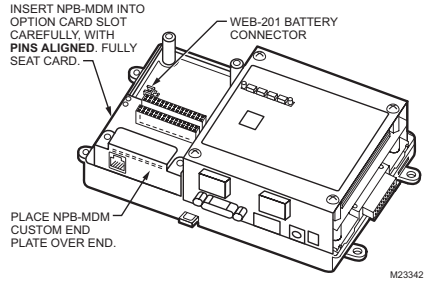

Fig. 3. Top view, NPB-MDM end plate insertion.
6. Place the custom end plate that came with the NPB-MDM Modem Card over its connector. (See Fig. 3).
7. Plug the battery cable into the battery connector on the WEB-201 Controller. (See Fig. 3).